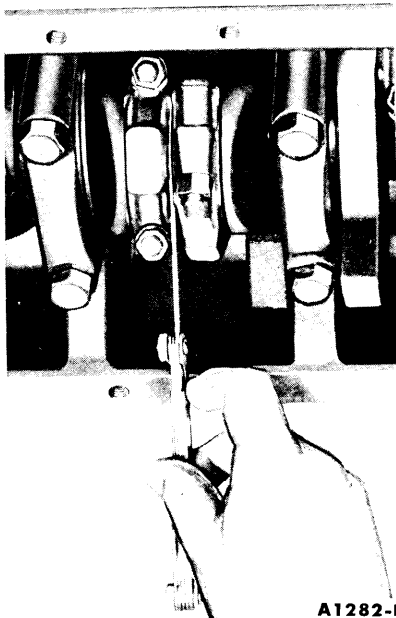

FIG. 43—Connecting Rod Side Clearance
9. After the piston and connecting rod assemblies have been installed, check the side clearance between the connecting rods on each crankshaft journal (Fig. 43).